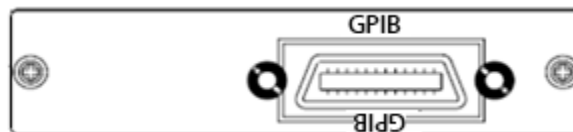

Figure 5-5: GPIB Connection
- Please make sure the lock screws are firmly hand-tightened, use a screwdriver only for the removal of screws. Figure 5-5 shows the rear panel of load. The GPIB address of the load is set on the front panel.